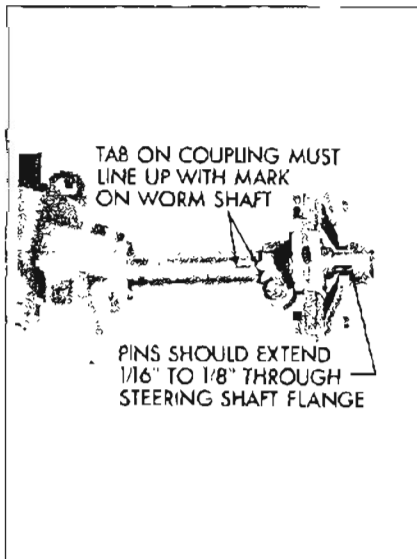

Figure 8-11—Gear Lower Coupling Installation
**NOTE:** If gear lower coupling was removed be sure to reinstall coupling so that tab on coupling is aligned with mark on gear worm shaft. See Figure 8-11.